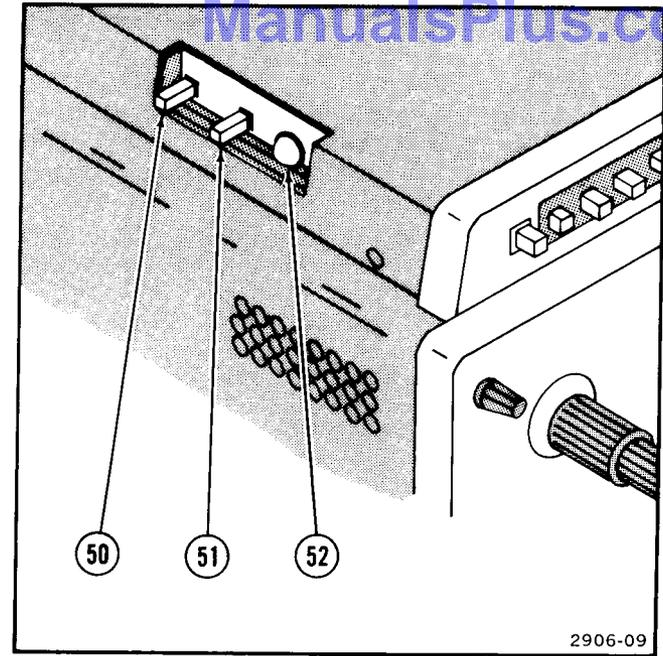

Figure 9. Digital storage left side panel controls and indicator.
Refer to Figure 9 for location of items 50 through 52.